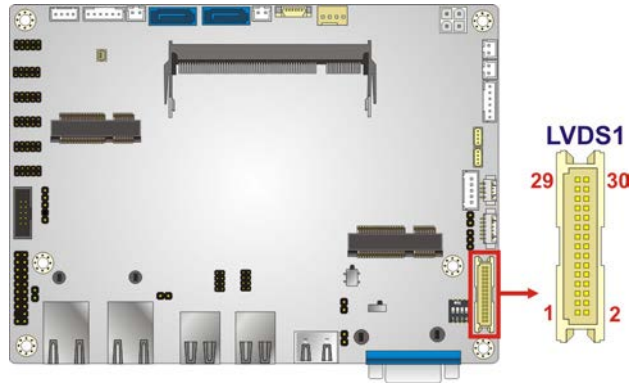

Figure 3-15: LVDS Connector Location
**CN Location:** See **Figure 3-15**